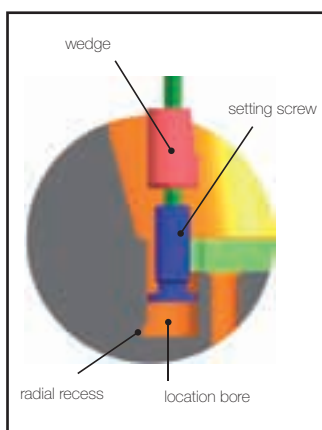

Fig. 1: ASSEMBLY
2. Locate the hexagonal key through the wedge into the setting screw and insert together into the base of the location bore of the adjustment unit (fig.1).